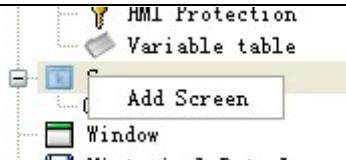

Figure 4-1: Screen option
1. Choose “New Screen” command in the Screen menu, or click in the tool bar, or right click the Screen in the Project Manager and then click “Add Screen” in the right click menu. See Figure 4-1.